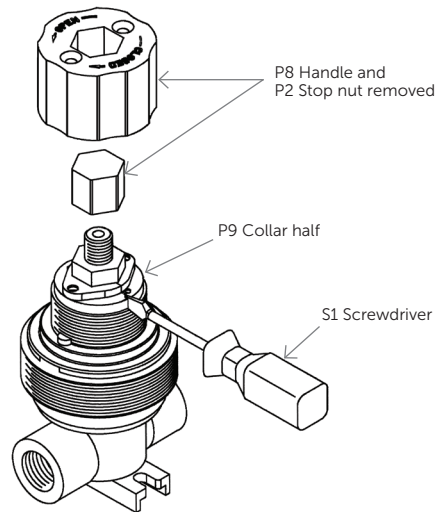

Figure 2.
5. Remove the collar halves (P9) by inserting a screwdriver (S1) into the slot and separating them as shown in Figure 2.